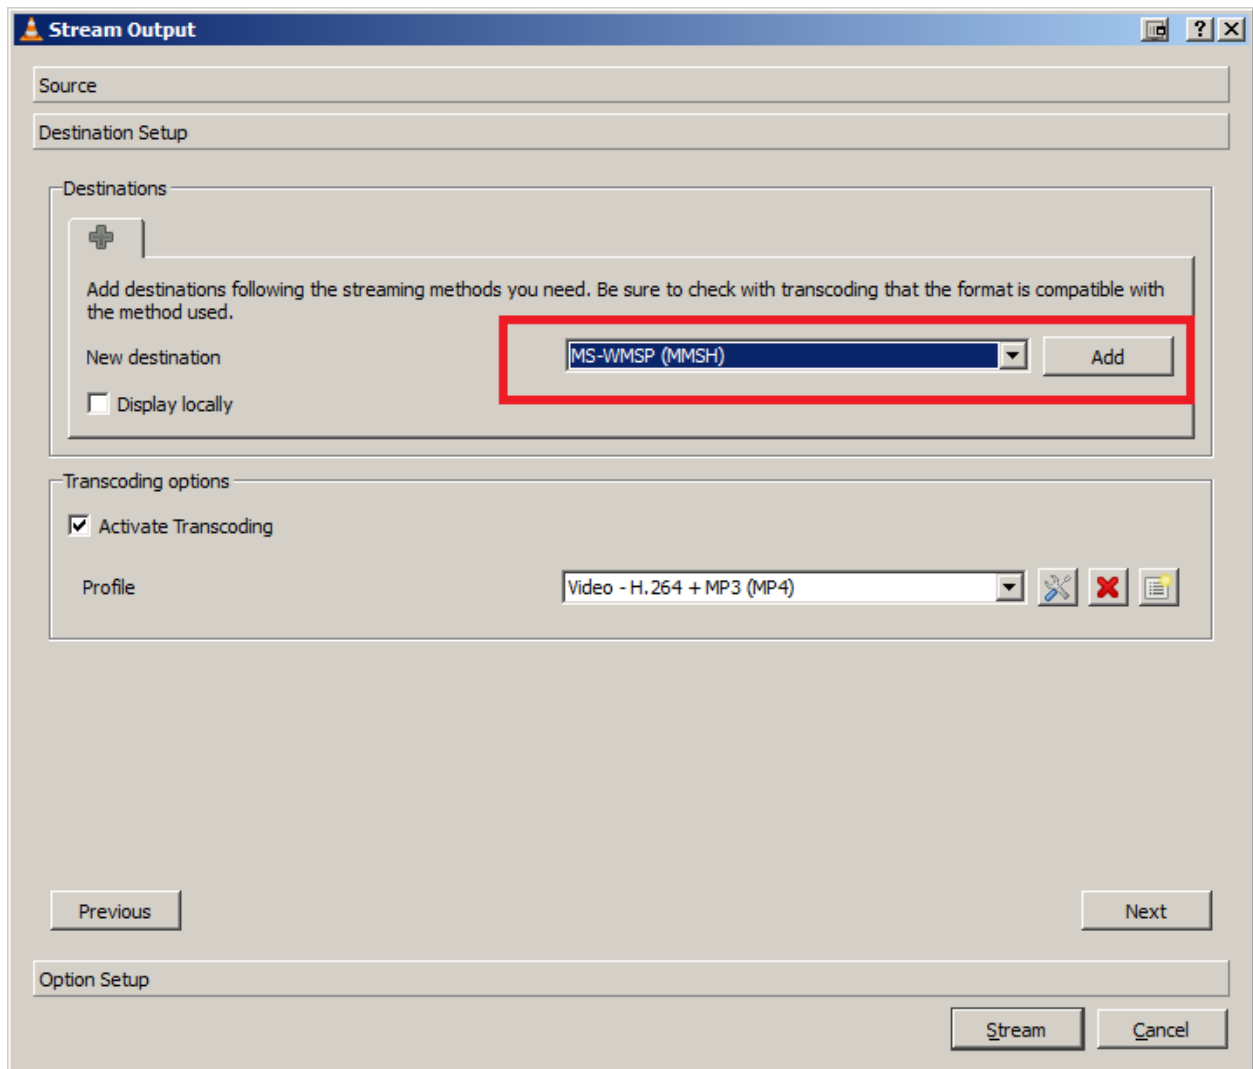

Figure 26
7. Select “MS-WMSP” in the “New destination” section as the streaming method. Click the “Add” button (Figure 26).